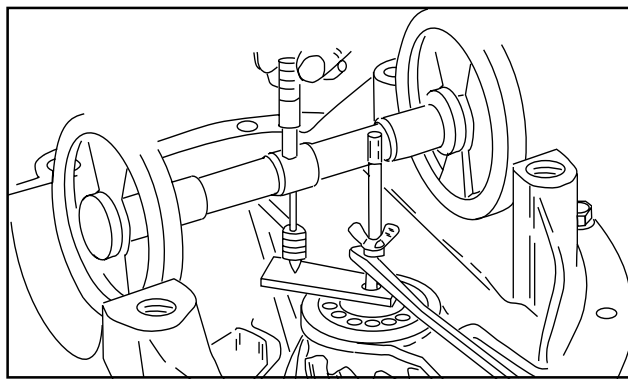

Figure 10
3. Remove any burrs and wipe clean differential bearing bore I.D.'s. Turn micrometer 90 deg. to step plate. Install assembled pinion setting gauge into bearing bores of carrier housing until fully seated. Adjust micrometer so it is directly over end of step plate. Run the micrometer thimble down to measure the distance between the center of the ring gear and the step plate. See Figure 10. Make a note of this dimension.